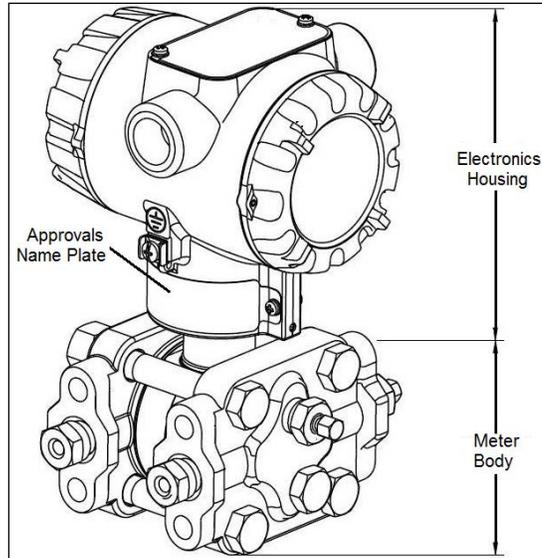
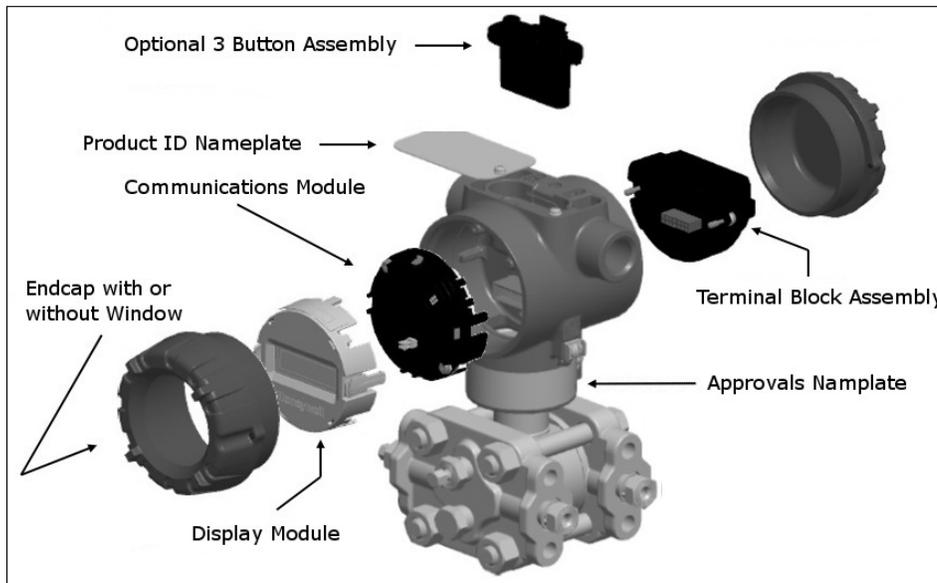
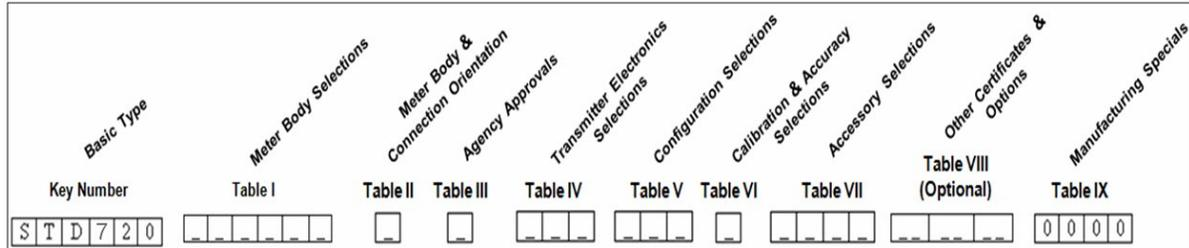

Figure 1 – ST 700 Major Assemblies
Figure 2 – Electronics Housing Components
Figure 3 –Typical ST 700 Name Plate
As shown in Figure 1, the ST 700 is packaged in two major assemblies: the Electronics Housing and the Meter Body. The elements in the Electronic Housing respond to setup commands and execute the software and protocol for the different pressure measurement types. Figure 2 shows the assemblies in the Electronics Housing with available options.
The Transmitter nameplate mounted on the bottom of the electronics housing (see Figure 1) lists its model number, physical configuration, electronics options, accessories, certifications, and manufacturing specialties. Figure 3 is an example of a typical Gauge Pressure (GP) or Atmospheric Pressure (AP) Transmitter name plate. The model number format consists of a Key Number with several table selections. The Differential Pressure (DP), Absolute Pressure (AP), and Gauge Pressure (GP) name plates are essentially the same. However, the DP provides one additional entry (7 vs. 6) in the Meter Body Selections (Table I) to accommodate the static pressure rating.
An “approvals” name plate is located on the bottom of the Electronics Assembly; see Figure 1 for exact location. The approvals name plate contains information and service marks that disclose the Transmitter compliance information. Refer to Appendix C of this document for safety certification requirements and details.
Zero and Span adjustments are possible in ST 700 SmartLine Pressure Transmitters with the optional three-button assembly located at the top of the Electronic Housing (see Figure 2).